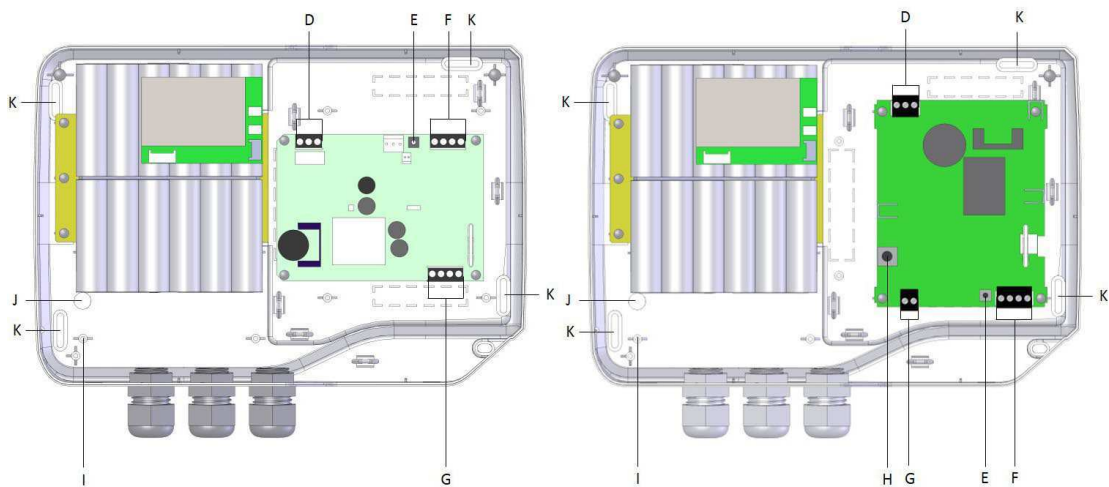

Figure 4.3: Interior view (left 30 W; right 55 W)
- For prolonged storage or disconnection, switch off the mains then press the stop button back-up function. (see on Figure 4.3 in chapter 4.4: Disconnect backup push-button)